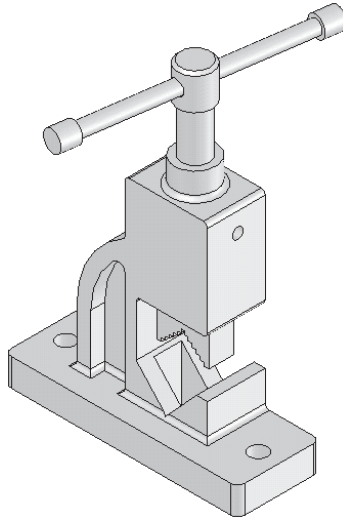

Figure 11-80 Final Pipe Vice assembly
- Place the other components in the assembly and apply the required mates to the assembly, refer to Figure 11-80.
20. Similarly, assemble the other components of Pipe Vice. Figure 11-80 shows the final Pipe Vice assembly.